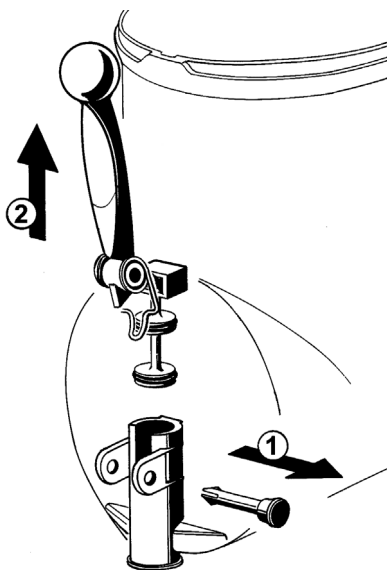

figure 12
5 Remove the faucet assembly sliding the pin and pulling up the handle. (see figure 12).
- 3 Assemble the faucet by reversing the disassembly steps (see figure 12)